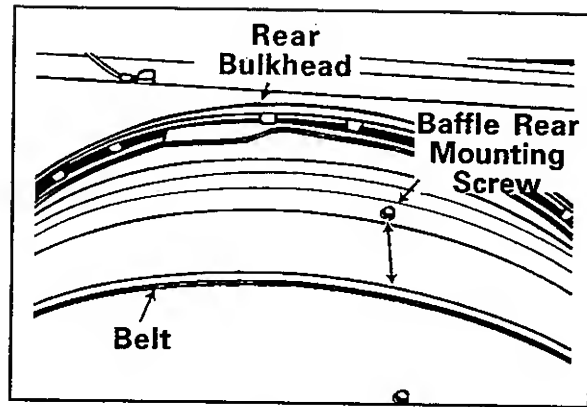

Figure 10-9
2. Place belt onto the outside of the tumbler and position the belt 1 1/2" in front of rear baffle mounting screws with ribbed side against tumbler (*Figure 10-9*).